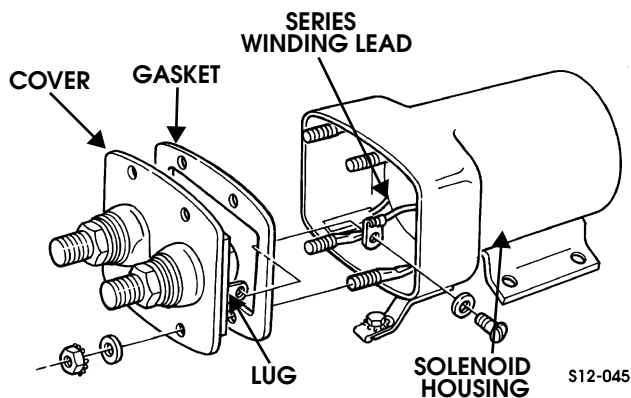

Figure 12-61: Solenoid Housing Disassembly/Reassembly
22. Remove nut and lockwasher assemblies and rubber washers from solenoid housing. Discard rubber washers (Figure 12-61).
1. Assemble washer, rubber boot, spring retainer, spring, and spring retainer on core shaft and secure with snap ring (Figure 12-61).
4. Place gasket on cover and secure series winding lead to lug with screw and washer (Figure 12-61).